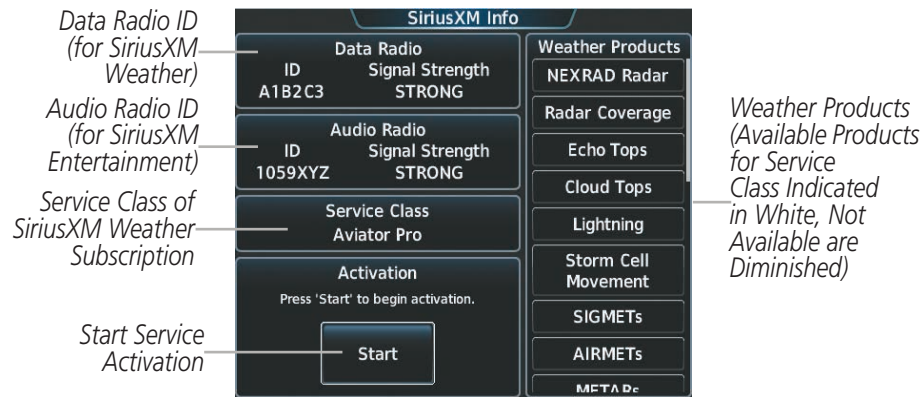

Figure 6-1 SiriusXM Info Screen Prior to Activation
- The SiriusXM Info Screen on the Touchscreen Controller (Figure 6-1)
- 2) Note the ID shown in the Data Radio Window as seen in Figure 6-1.
- 3) Touch the **Start** Button in the Activation window (Figure 6-1). The Activation Window shows 'ACTIVATING' while processing the activation.